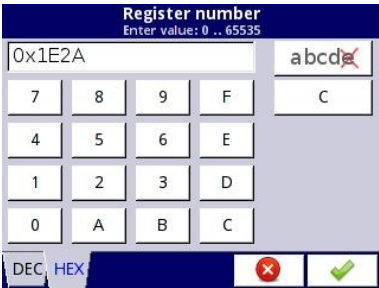

Fig. 7.7. Value editor – hexadecimal form
- hexadecimal form, see Fig. 7.7,